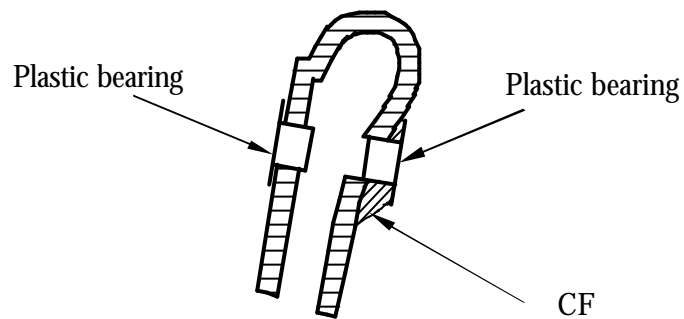

Fig. 3.17.6
5. Roughen the outside of the two plastic bearings and bond them into the 18mm (0.71") hole in the fuselage with CF. Fill the bearing in the domed area of the safety cell with CF (see fig. 3.17.6).